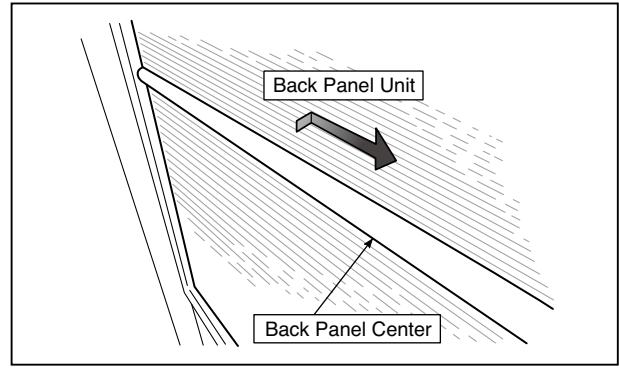

Fig.21
2. Slide the Back Panel Center and remove it while pushing the Back Panel Unit corner shown in the figure 21 forward.